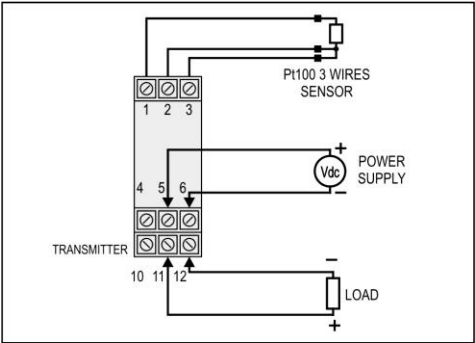

Figure 05 – Transmitter connections – Pt100
**Figure 05** below shows the transmitter connections to the sensor and power supply. Terminals 1, 2 and 3 are used for sensor input. For 2-wire Pt100, terminals 2 and 3 shall be connected together.